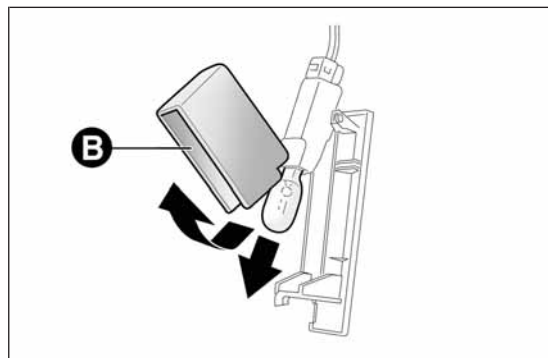

fig. 146
- ❑ open the protection B fig. 146 and replace the bulb;